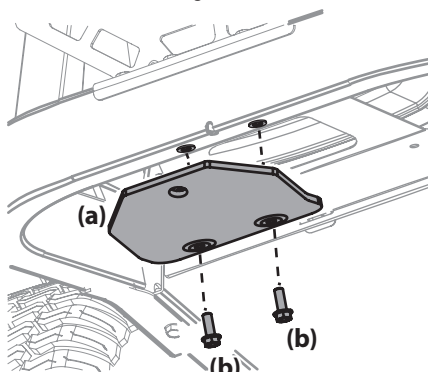

Figure 2
1. Locate hitch (a) and install on the rear of the frame using the two hex washer screws (b) provided. See Figure 2.